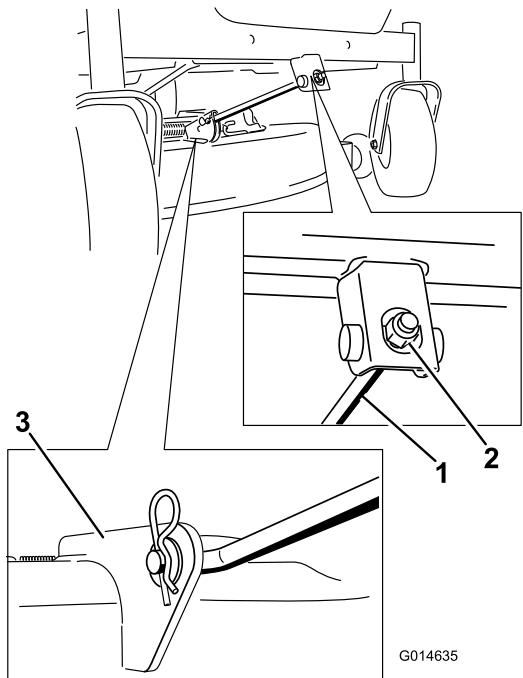

Figure 55
- Remove the hairpin cotter from the front support rod and remove the rod from the deck bracket (Figure 55). Carefully lower the front of the mower deck to the ground.
6. Attach the front support rod to the mower deck with the clevis pin and hairpin cotter (Figure 55).